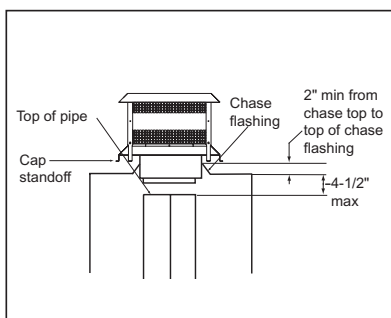

Figure 20D - Installing an ST375 Square Termination Cap
- For installations utilizing an ST375 square termination cap the last chimney section must not be more than 4-1/2" below the chase top. See Figure 20D.